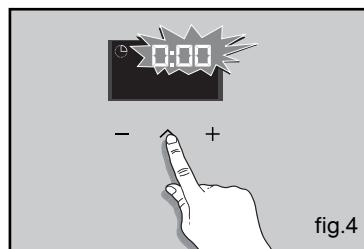

fig.4
- the cooking time indicator and 0:00 flash (fig. 4),